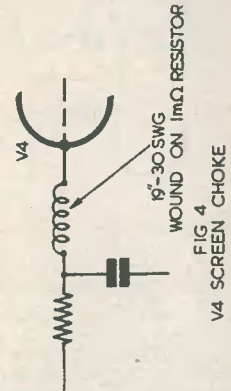

FIG. 4. V4 SCREEN CHOKE
67. Remount the drive by the two 5BA bolts retained from Step 59, omitting to refit the earthing tag originally held under one of them. Ensure that the green lead of Step 62 is returned to its original position. The front insulated lead from the moving vane wiper tag is passed through grommet C (Fig. 4) and connected, shortened as necessary, to pin 1 of VID. The rear insulated moving vane wiper lead is taken through plain hole D (Fig. 4), and, shortened as necessary, connected to pin 1 of VIB.
The insulated lead from the bottom tag of the centre fixed vanes is taken through grommet A; and that from the rear fixed vanes through grommet B (Fig. 4 again). They are not connected as yet. All the other leads fitted in Step 66 remain above the chassis.
the junction, taking care to leave the by-pass capacitor connected, and solder a lead to this connection, long enough to go to your bias supply. This will need to be in the neighbourhood of 60 volts, depending on the amount of drive you have available. Now disconnect the screen of V4, and insert an RF choke as detailed in Fig. 4. This is to guard against the RF losses which may occur due to series resonance of the screen circuit, and in most cases it effects an improvement in the RF output.